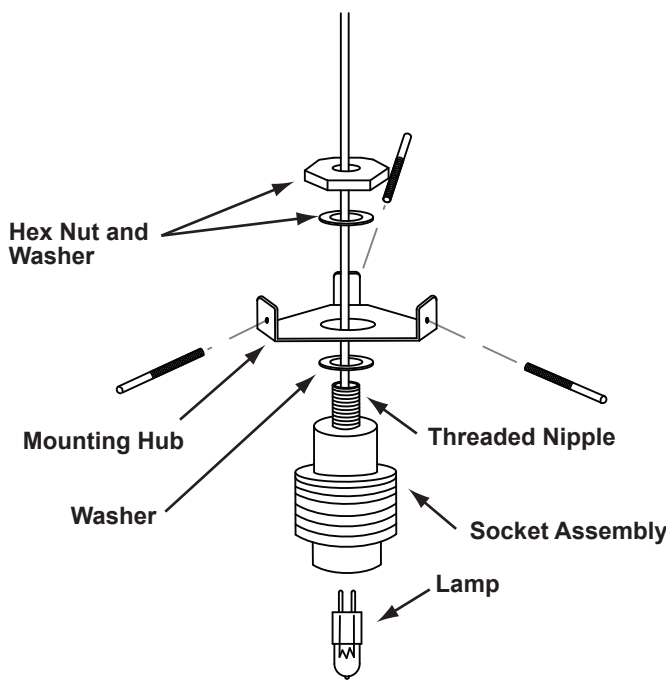

Figure 1
1. Begin by threading the Threaded Nipple into the top of the Socket Assembly and then installing one of the Washers provided. Then install the Mounting Hub on the Threaded Nipple until the Hub rests on the installed Washer. Secure the Mounting Hub using the remaining Washer and Hex Nut provided. See figure 1.
While holding the Lampholder secure, hold the Lamp by the base, just above the contacts, and firmly push the lamp into the socket. See figure 1.